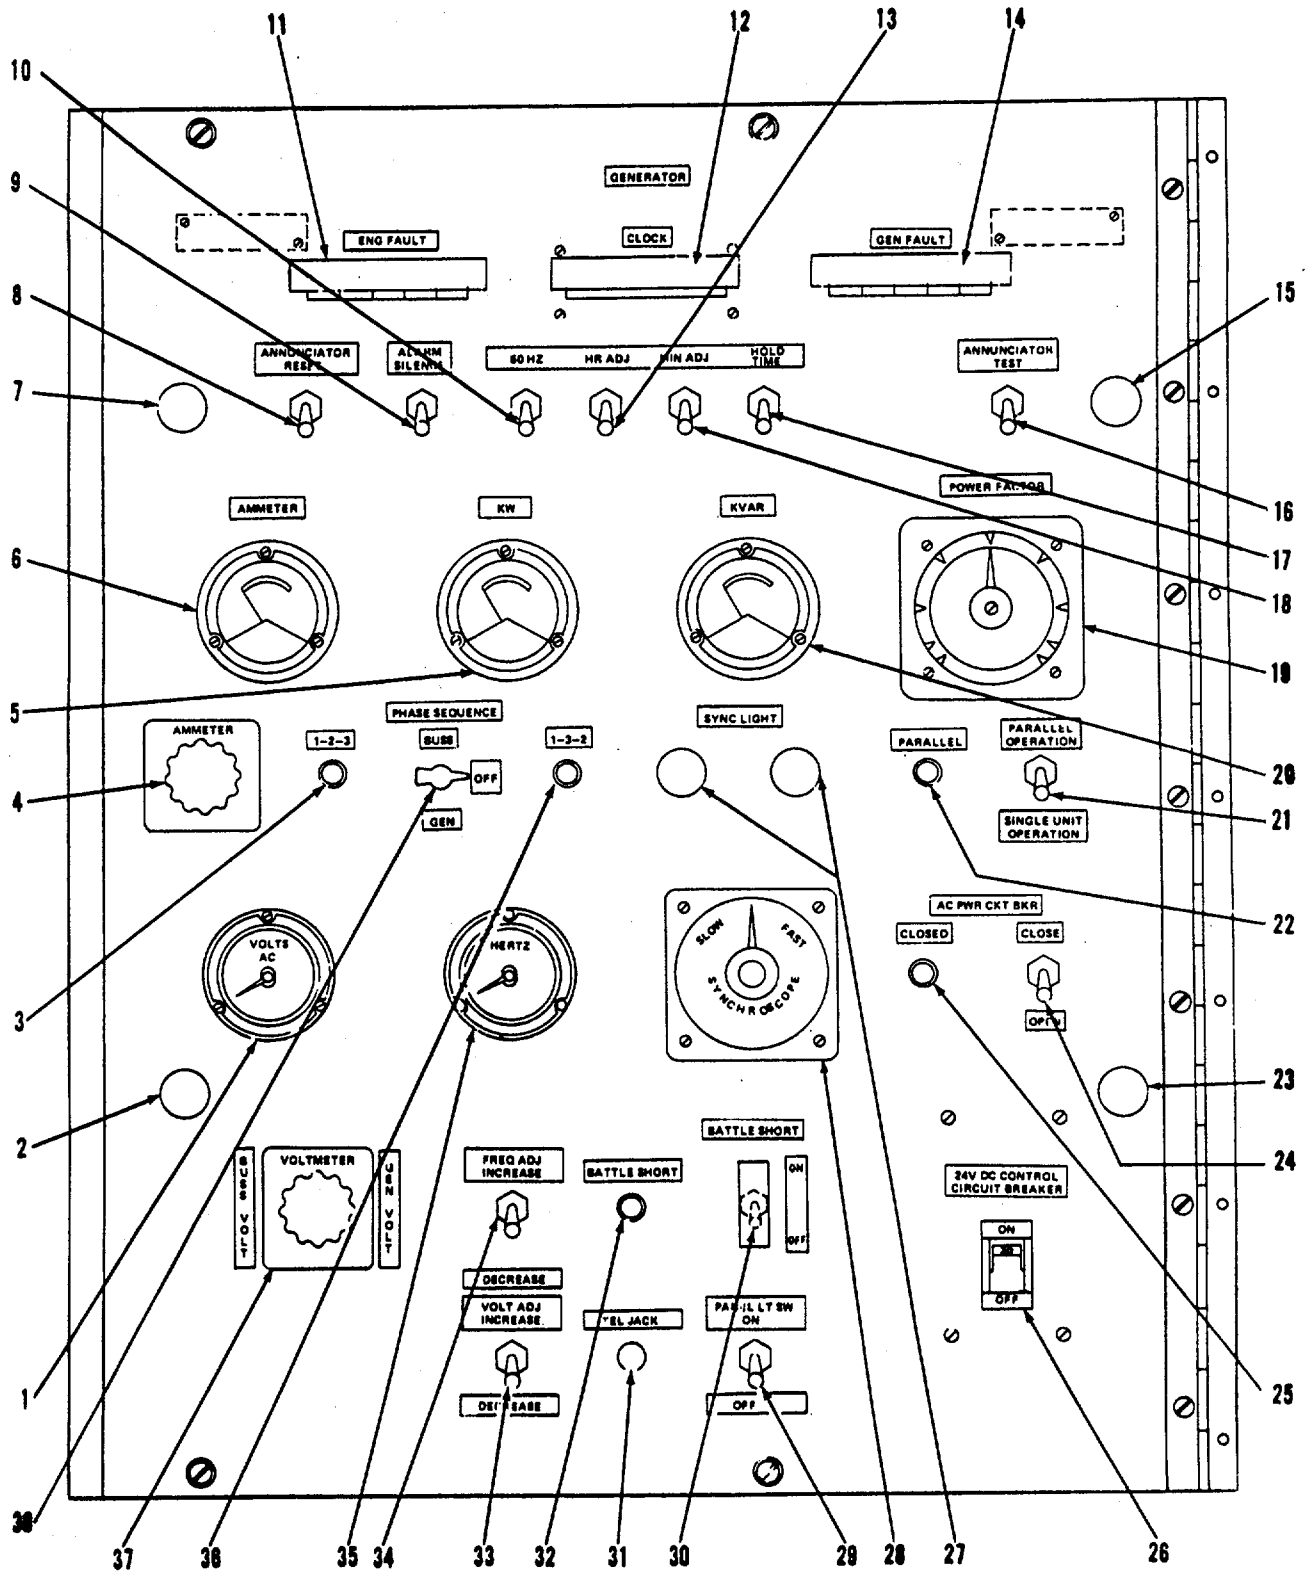

Figure 2-2. Generator Control Panel (Part of Control Cubicle)
b. Stopping by Safety Devices. The generator set is equipped with safety device electrical circuits that automatically stop the engine and simultaneously open the main AC circuit breaker in the case of: (1) high coolant temperature, (2) low oil pressure, (3) engine overspeed, (4) overvoltage, (5) no fuel, or (6) high oil temperature. A short circuit, overload, or reverse power protective relay will automatically open the main AC circuit breaker but will not stop the engine. Undervoltage relay protective circuit will similarly open the main AC circuit breaker but will also not stop the engine. A specific fault indicator (five for the engine and five for the generator, figure 2-2) will light when any of these abnormal conditions occur. Once the generator set has been stopped due to the action of one of these safety devices, the problem must be corrected before the generator set is placed back in operation.